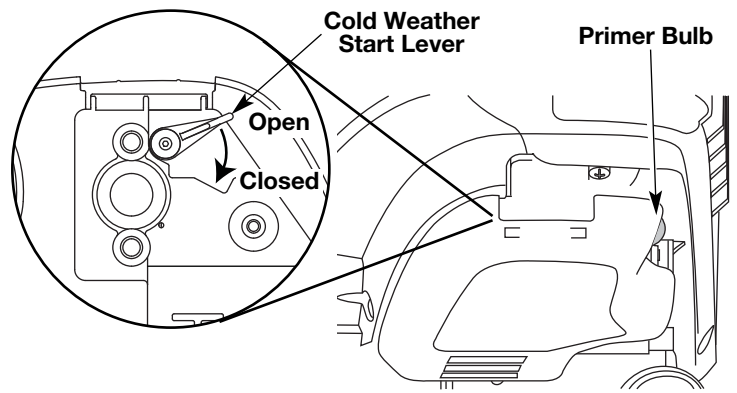

Fig. 7
3. Fully press and release the primer bulb 10 times, slowly. Some amount of **fuel should be visible in the primer bulb** and fuel lines (Fig. 7). If you can't see fuel in the bulb, press and release the bulb as many times as it takes before you can see fuel in it.
IF UNIT IS BELOW 40°F/4°C... Push the Cold Weather Start Lever (Fig. 7) down to the start/closed position. **DO NOT** push this lever down if the unit temperature is above 40°F/4°C.